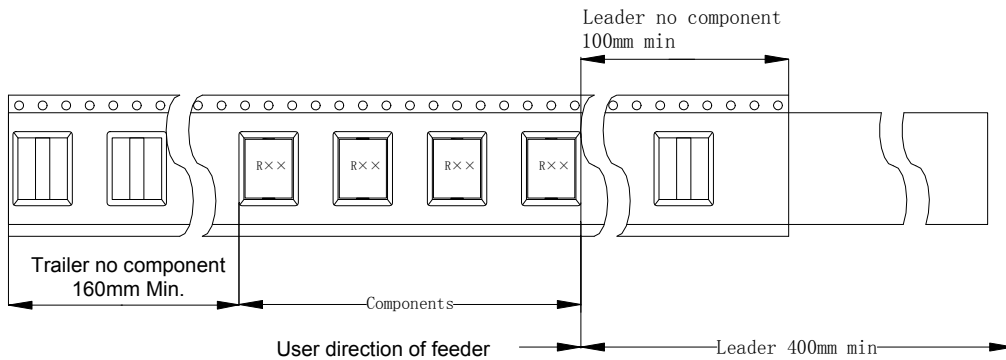

Fig. 9.1.1-2
1) Carrier tape dimensions (Please refer to Fig. 9.1.1-1 and Table 9.1.1-1)
2) Direction of rolling (Please refer to Fig. 9.1.1-2)